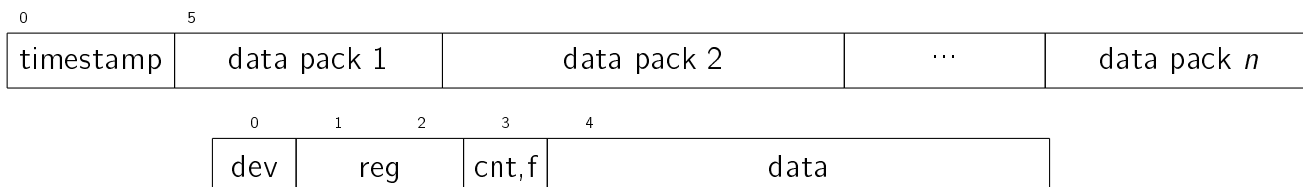

Figure 6: Bytes, port 2 – Data Packet and an individual data pack
*Port 2* – The data packet is used to transmit values successfully read from Modbus registers. It begins with a 5 byte timestamp followed by 1 or more data packs of 6 or more bytes each. The number and length of the data packs depends on the configuration of the Bridge. Figure 6 and table 5 illustrate the complete data packet as well as one individual data pack.